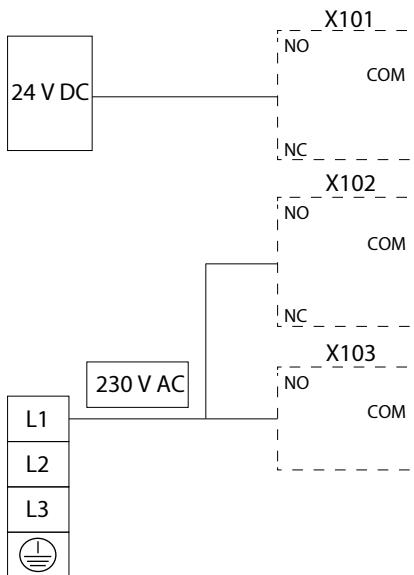

Figure 42: Operation up to 2000 m (6560 ft) Altitude
- Operation up to 2000 m (6560 ft) altitude: Each relay can operate at different phase voltages. See Figure 42.